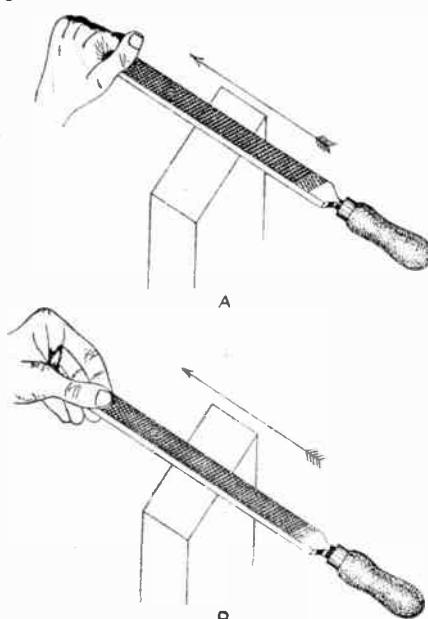

Fig. 1—Heavy and light filing
For a guide where a piece of work requires heavy or rough filing, a file with fairly coarse cut teeth should be used. The method of rough filing metal is described in the following manner with the aid of view (A) Fig. 1, of the accompanying illustrations.
Much depends upon how the file is held if the work of heavy filing is to be done with more or less ease. The left hand should grip the end of the file, as indicated in view (A) Fig. 1, and the right hand should firmly grip the handle. When filing do not use the file in a see-saw manner, take firm strokes, keeping the file flat and use pressure and force in a forward direction indicated by the arrow. Relieve the pressure and force on the backward stroke, simply allowing the file to trail over the surface of the work.
For light filing a slightly different application is needed if the work is to be a success. A file with medium cut teeth is used for light filing, and the file is held at the end with the grip made by the thumb and finger tips, as indicated by view (B) Fig. 1. Use less force and pressure as applied for heavy filing, but the required pressure is made likewise on the forward stroke in the direction of the arrow.